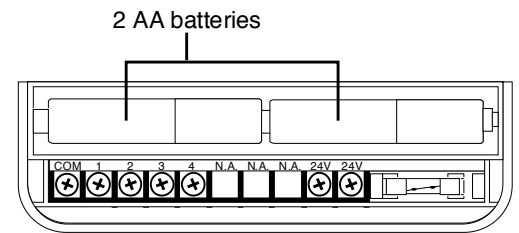

Figure 4
1. Install 2 AA (1.5 volt) alkaline batteries in the battery compartment. (See Figure 4.)